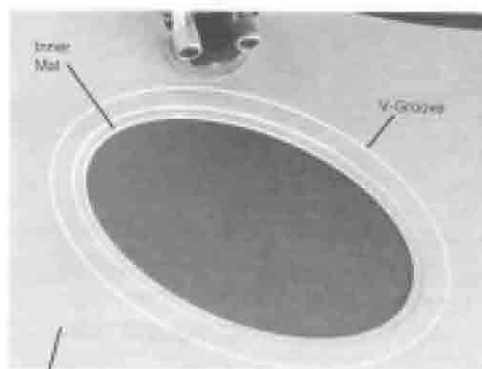

Figure 17
3. Glue the two mats together, making sure that the top and left edges are even. See Figure 17.